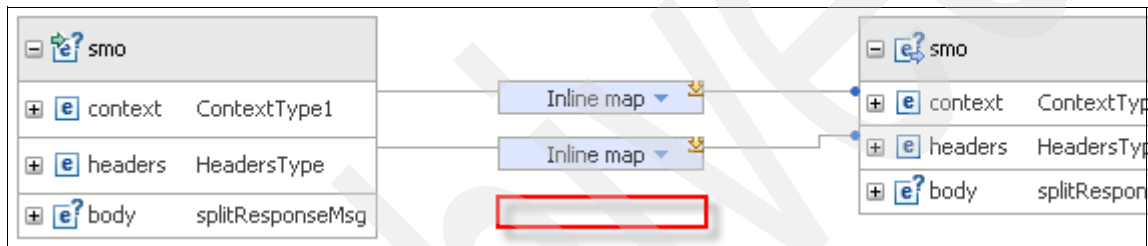

Figure 6-64 Body Inline map removal
- d. Return to the original map, and remove the body inline map because you have to move the correlation context content into the body instead. See Figure 6-64.